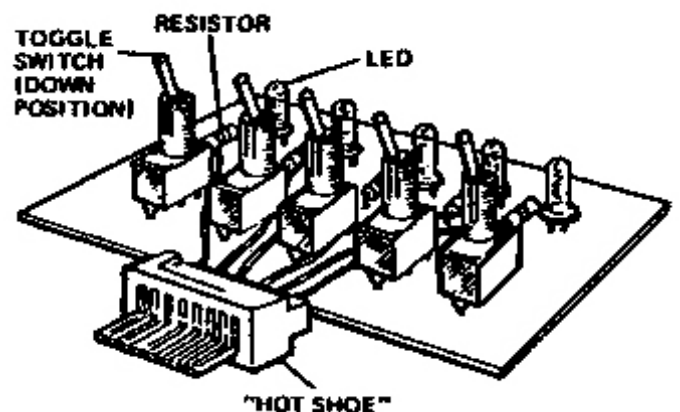

Figure 3-9 Flash simulator board
5. Flash Simulator Board (Figure 3-9)
The Flash Simulator Board provides a quick, easy method for checking the flash firing capability of the SX-70 camera. Figure 3-9 shows the board which contains five light emitting diodes (LED), five resistors, and five toggle switches. Providing the interface with the camera socket is a «hot shoe» assembly which reduces wear on the board contacts. Use the simulator as follows :